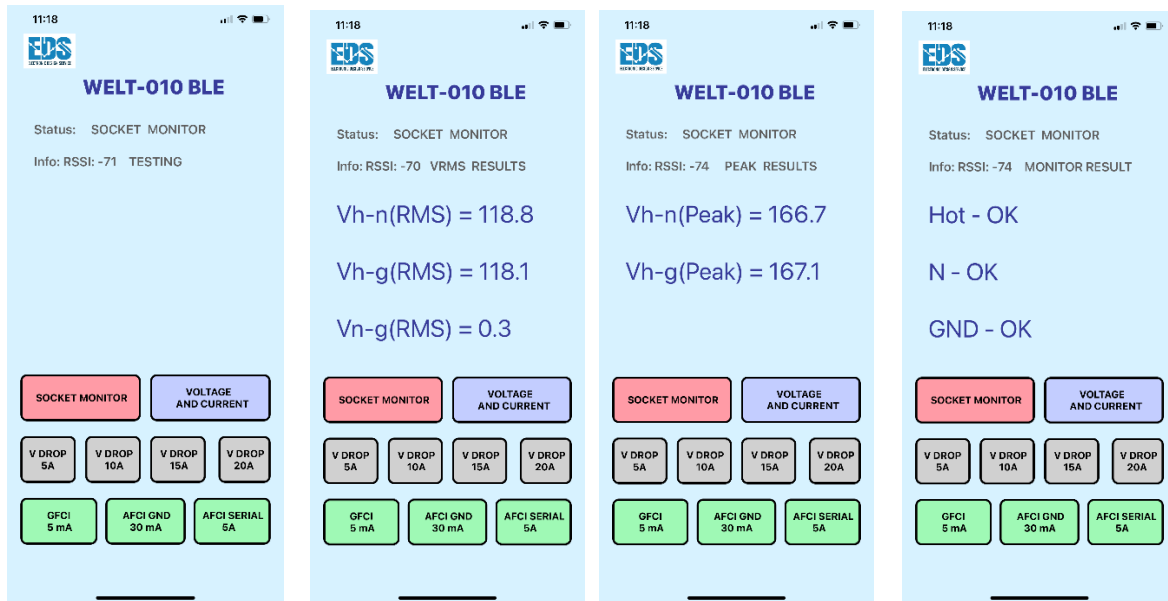

Figure 17 Socket Monitor Test Screenshots
**Socket Monitor Test operation** (see Figure 17):
Refer to Figure 17.